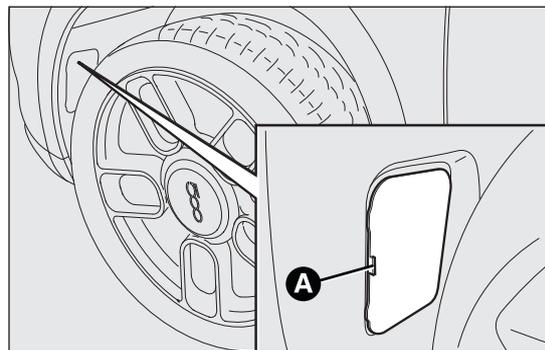

fig. 115
- adjust the tab A fig. 115 and remove the pressure-fit flap;